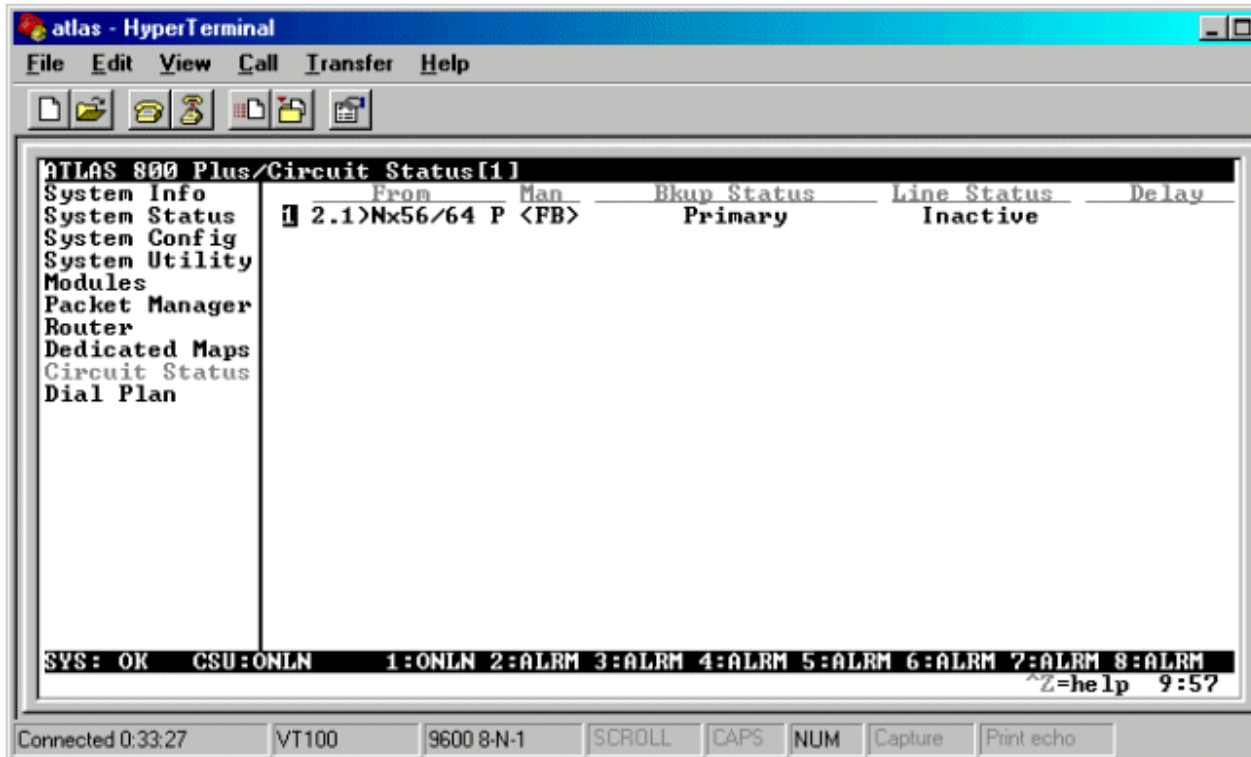
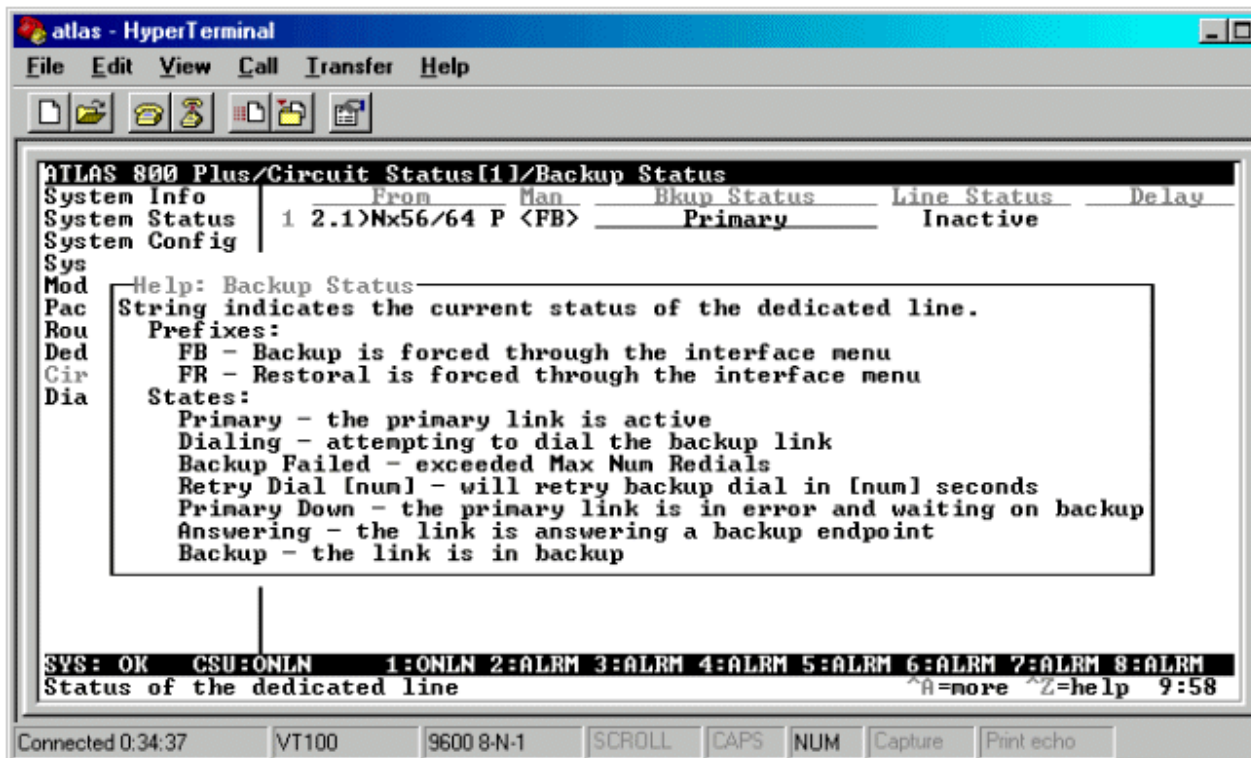

Figure 7
Figure 8
It is possible to monitor the status of the dial backup circuit. From the main menu, select **Circuit Status**. The **From** column shows the circuits that have been configured for backup. The **Man** field allows the user to manually force backup (FB), or restore the circuit to regular (FR). The **Line Status** shows the status of the backup line. Possible values and descriptions of these values can be viewed by highlighting the entry and pressing **ctrl-a** for the help screen. Figure 7 shows the **Circuit Status** screen and Figure 8 shows the **Circuit Status** screen with the help menus: